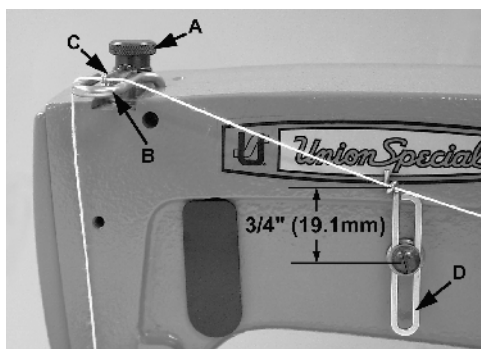

Fig 16
Regulate the presser spring regulating screw (A, Fig. 16) so that it exerts only enough pressure on the presser foot to feed the work uniformly when a slight tension is placed on the fabric. Turning it clockwise increases the pressure, counterclockwise acts the reverse.
For 56100Z28B Turn handwheel in operating direction until the needle bar reaches its lowest position. Set needle thread take-up wire (B, Fig. 16) so that its thread contact surface is even with the center of the needle bar thread eyelet (C). Lower this setting for a smaller needle thread loop, raise for a larger loop. Set needle thread frame eyelet (D) so that it is approximately 3/4 inch (19.1mm) above centerline of its attaching screw (Fig. 16).